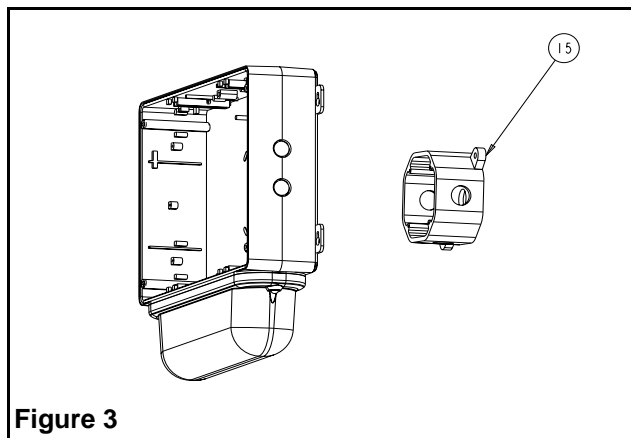

Figure 3
- a. Remove appropriate knock-outs on back plate for installation on junction box (see figure 3).